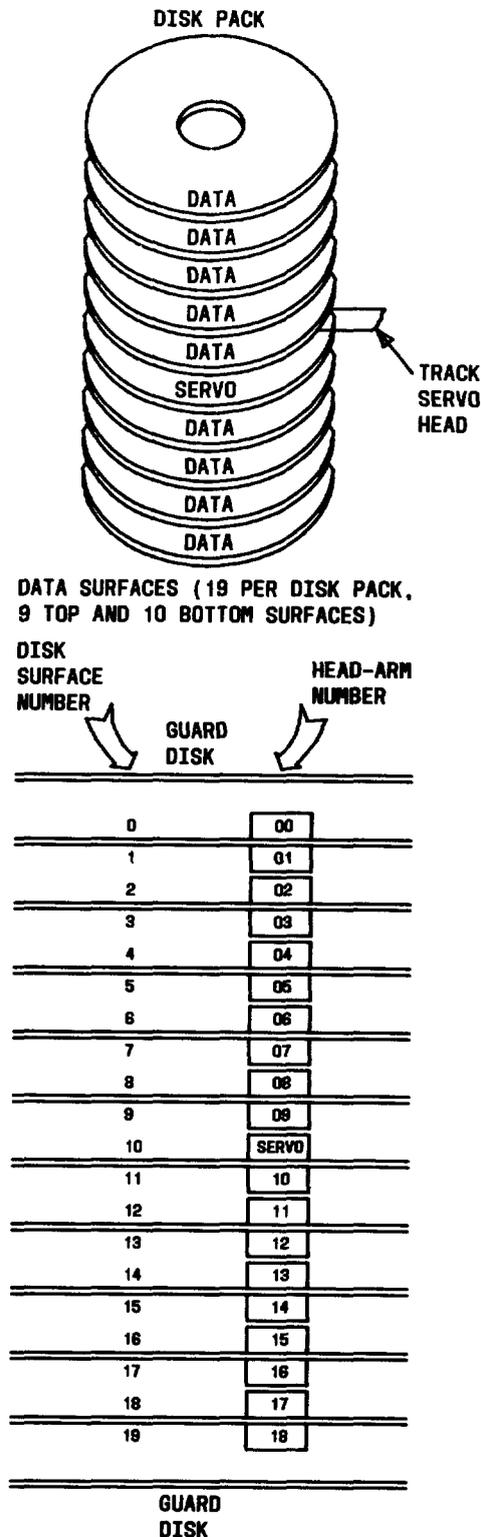

Fig. 6—Disk Pack Layout
2.05 Each of the three disk drives has a 300-megabyte storage capacity. There are 12 disks in each disk pack (Fig. 6). The top and bottom disks are used for protection only. The remaining ten disks provide 19 data-recording surfaces and one prerecorded servo surface.